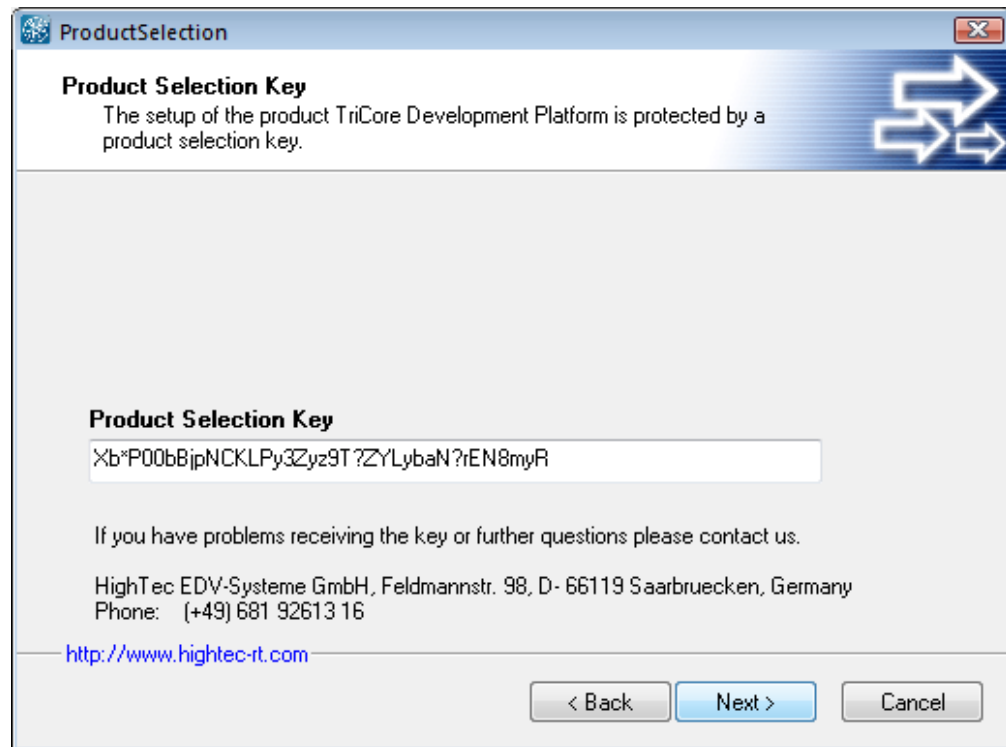

Figure 5 ProductSelection dialog
5. Please select mode and click **Next**. Now the ProductSelection dialog with the predefined product key appears (Figure 5). No user action is needed.